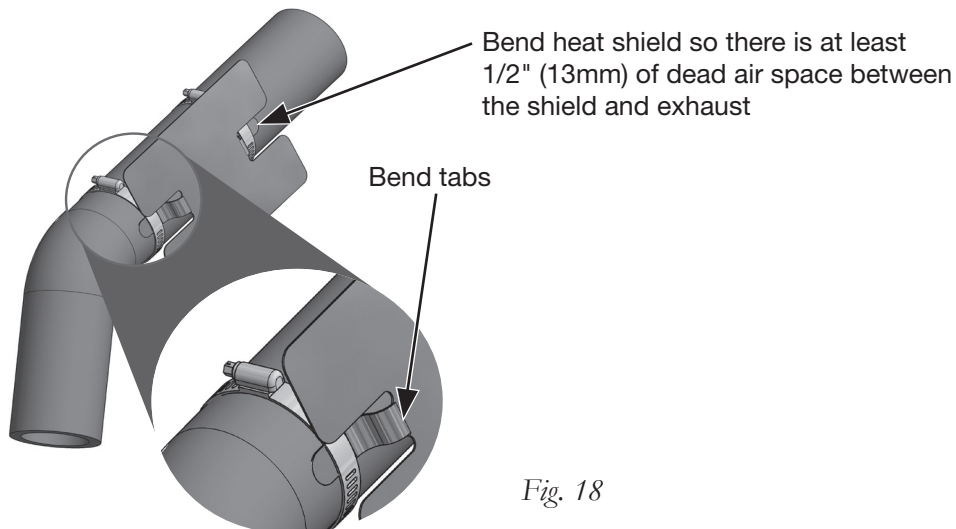

Fig. 18
1. Attach the metal heat shield to the exhaust where it is closest to the driver's (left) side air spring (Fig. 18).